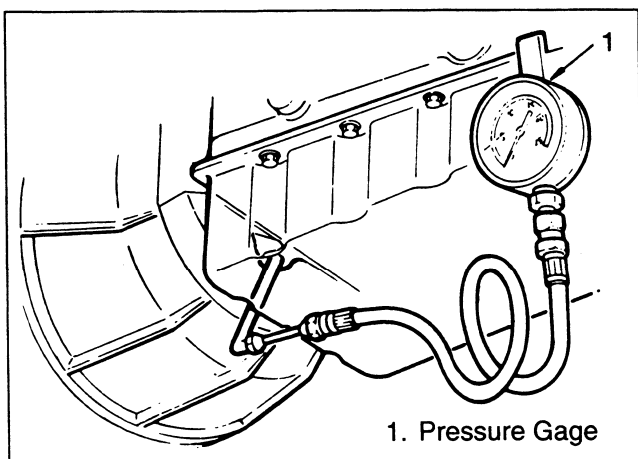

Figure 14. Setting Pressure Gage
5. Set a pressure gage (1) to the pressure detection plug hole (figure 14).